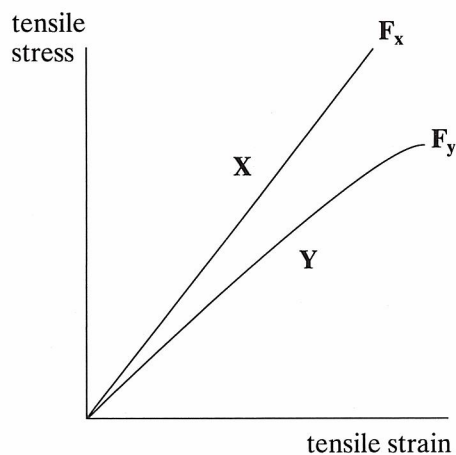

Figure 2
- 3 (a) **Figure 2** shows the variation of tensile stress with tensile strain for two wires **X** and **Y**, having the same dimensions, but made of different materials. The materials fracture at the points F_x and F_y respectively.